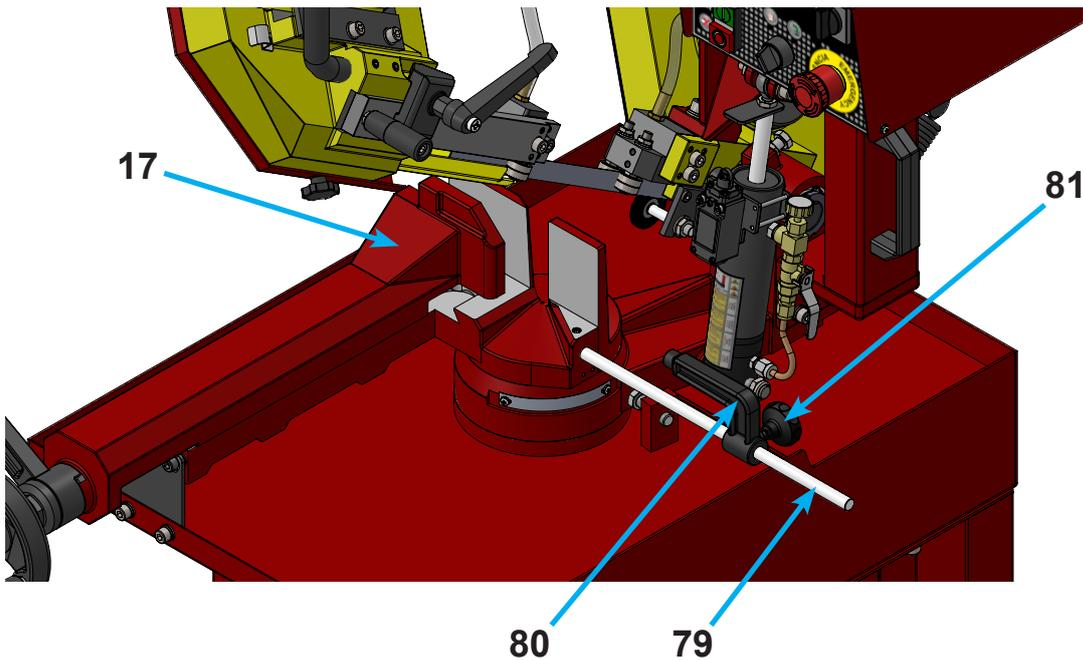

FIGURE 10.5 - MEASURING ROD SYSTEM
9. FIRST, FIT the Band Saw Blade (10) into the gap of the Guides (31)(32), between the Side Bearings (33), on the Drive Flywheel (14), and finally on the Idle Flywheel (13).
10. PERFORM the pre-tensioning by turning the Tensioner Handle (63) to tension the Band Saw Blade (10) (tighten).
11. INSTALL the Back Cover (18), securing it with the Fixing Handles (60).
12. PROPERLY INSERT the actuator, fixed to the Cover (18), into the Safety Switch (29) (figure 10.5);
13. INSTALL the Protection (62) on the Mobile Guide Support (37) using its respective screws.
14. SELECT one of the 2 cutting speeds using the Speed Switch (40).
15. RELEASE the **EMERGENCY** Button (03).
16. TURN the Main Switch (02) to **ON**;
17. SET the Selector Switch (23) to **MANUAL** mode.
The **S3120NG** features a standard Measurement Rod system, consisting of a 500 mm Rod (79) and a Stopper (80) (figure 10.5).